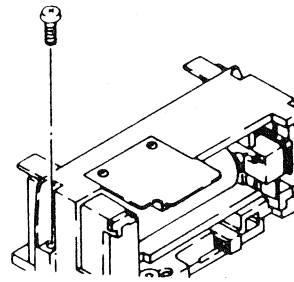

Fig. 3
- 2.1 Remove the two screws (Fig. 3) holding the outer shell of the flash head unit, separate into outer shell, flash head, and geartrain.